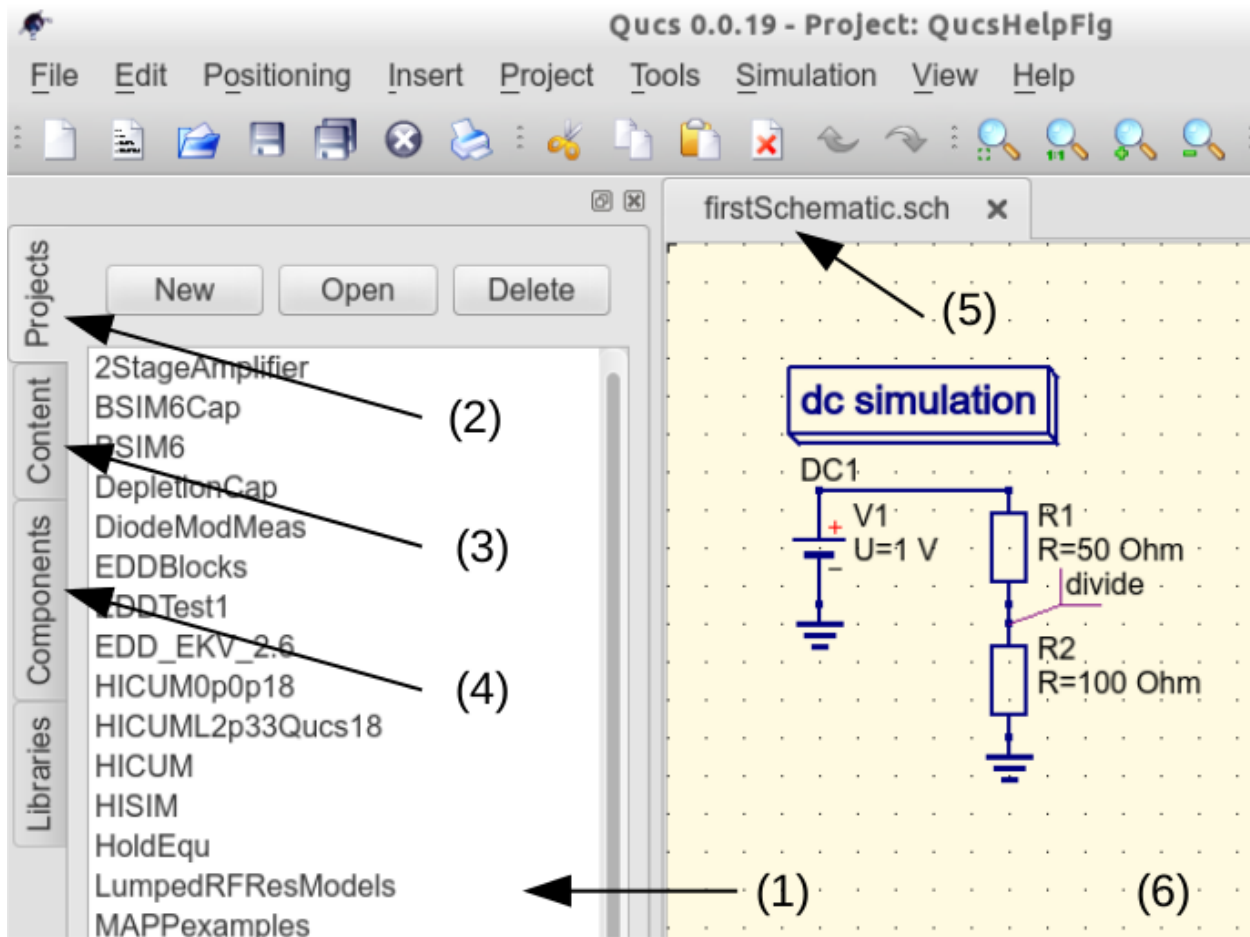
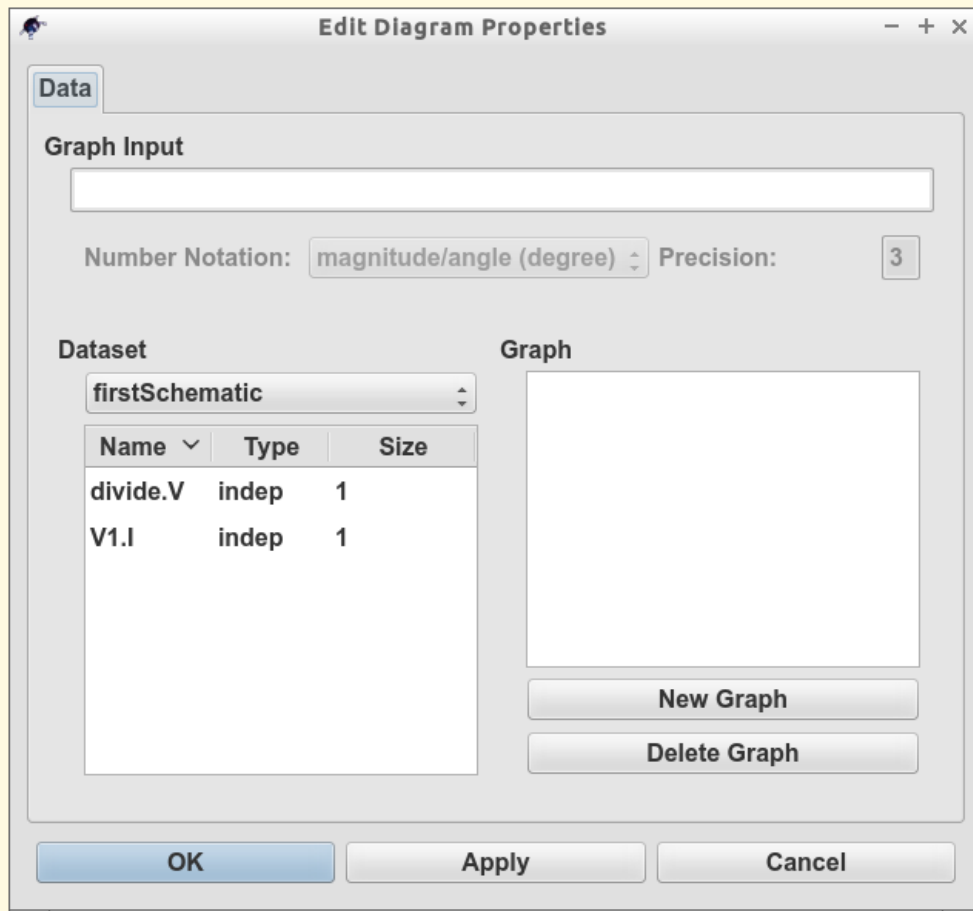

Figure 3 - Qucs main window with working areas labelled
Figure 4 - Qucs data display window showing a **Tabular** dialogue
On launching Qucs a working area labelled (6) appears at the centre of the GUI. This window is used for displaying schematics, numerical and algebraic model and circuit design data, numerical output data, and signal waveforms and numerical data visualised as graphs, see Figure 3. Clicking, with the left hand mouse button on any of the entries in the tabular bar labelled (5) allows users to quickly switch between the currently open documents. On the left hand side of the Qucs main window is a third area labelled (1) whose content depends on the status of **Projects** (2), **Content** (3), **Components** (4) or **Libraries**. After running Qucs, the **Projects** tab is activated. However note, when Qucs is launched for the first time the **Projects** list is empty.
To enter a new project left click on the **New** button located on the right above window (1). This action causes a Qucs GUI dialogue to open. Enter the name of a Qucs project in the box provided, for example enter *QucsHelpFig* and click on the **OK** button. Qucs then creates a project directory in the `~/ .qucs` directory. In the example shown in Figure 3 this is called **QucsHelpFig\_prj**. Every file belonging to this new project is saved within the **QucsHelpFig\_prj** directory. On creation a new project is immediately opened and its name displayed on the Qucs window title bar. The left tabular bar is then switched to **Content**, and the content of the currently opened project displayed. To save an open document click on the **save** button (or use the main menu: **File** → **Save**). This step initiates a sequence which saves the document displayed in area (6). To complete the save sequence the program will request the name of your new document. Enter *firstSchematic*, or some other suitable name, and click on the **OK** button to complete the save sequence.
As a first example to help you get started with Qucs enter and run the simple DC circuit shown in Figure 3. The circuit illustrated is a two resistor voltage divider network connected to a fixed value DC voltage source. Start by clicking on the **Components** tab. This action causes a combo box to be displayed from which a component group may be chosen and the required components selected. Choose components group **lumped components** and click on the first symbol: **Resistor**. Next move the mouse cursor into area (6). Pressing the right mouse button rotates the **Resistor** symbol. Similarly, pressing the left mouse button places the component onto the schematic at the place the mouse cursor is pointing at. Repeat this process for all components shown in Figure 3. The independent DC voltage source is located in the **sources** group. The ground symbol can be found in the **lumped components** group or selected from the Qucs toolbar. The icon requesting DC simulation is listed in the **simulations** group. To edit the parameters of the second resistor, double-click on it. A dialogue opens which allows the resistor value to be changed; enter *100 Ohm* in the edit field on the right hand side and click enter.
To connect the circuit components shown in Figure 3, click on the wire toolbar button (or use the main menu: **Insert** → **Wire**). Move the cursor onto an open component port (indicated by a small red circle at the end of a blue wire). Clicking on it starts the wire drawing sequence. Now move the drawing cursor to the end point of a wire (normally this is a second red circle attached to a placed component) and click again. Two components are now connected. Repeat the drawing sequence as many times as required to wire up the example circuit. If you want to change the corner direction of a wire, click on the right mouse button before moving to an end point. You can also end a wire without clicking on an open port or on a wire; just double-click the left mouse button.
As a final step before DC simulation label the node, or nodes, whose DC voltage is required, for example the wire connecting resistors **R1** and **R2**. Click on the label toolbar button (or use the menu: **Insert** → **Wire Label**). Now click on the chosen wire. A dialogue opens allowing a node name to be entered. Type *divide* and click the **OK** button. If you have drawn the test schematic correctly the entered schematic should look the same, or be similar to, the one shown in Figure 3.
To start DC simulation click on the **Simulate** toolbar button (or use menu: **Simulation** → **Simulate**). A simulation window opens and a sliding bar reports simulation progress. Normally, all this happens so fast that you only see a short flickering on the PC display (this depends on the speed of your PC). After finishing a simulation successfully Qucs opens a data display window. This replaces the schematic entry window labelled (6) in Figure 3. Next the **Components** → **diagrams** toolbar is opened. This allows the simulation results to be listed. Click on the **Tabular** item and move it to the display working area, placing it by clicking the left hand mouse button. A dialogue opens allowing selection of the named signals you wish to list, see Figure 4. On the left hand side of the **Tabular** dialogue (called Edit Diagram Properties) is listed the node name: **divide.V**. Double-click on it and it will be transferred to the right hand side of the dialogue. Leave the dialogue by clicking the **OK** button. The DC simulation voltage data for node **divide** should now be listed in a box on the data display window, with a value of 0.666667 volts.